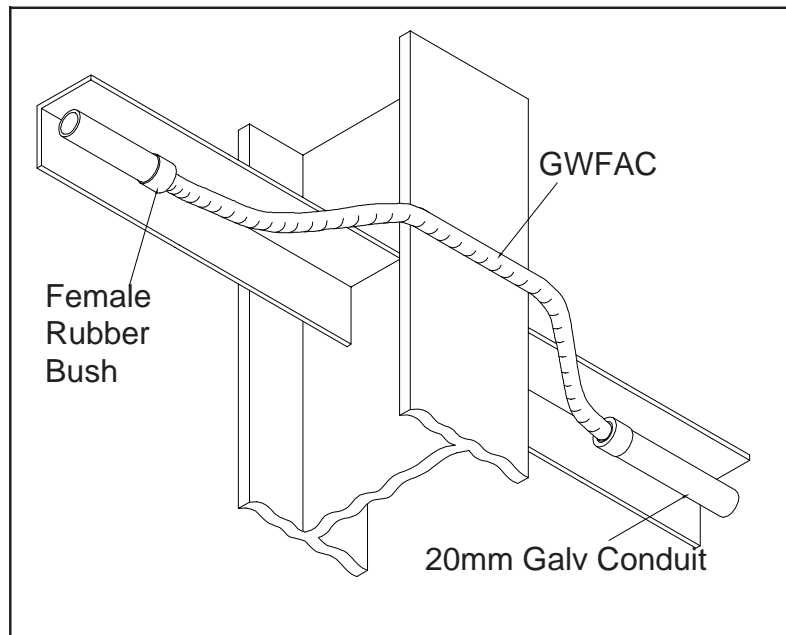

Figure 20
10. Remove the cable ties on the flexible conduit and slide the conduit along the sensor cable until each length is centrally located between the rigid conduit sections. See Figure 20.